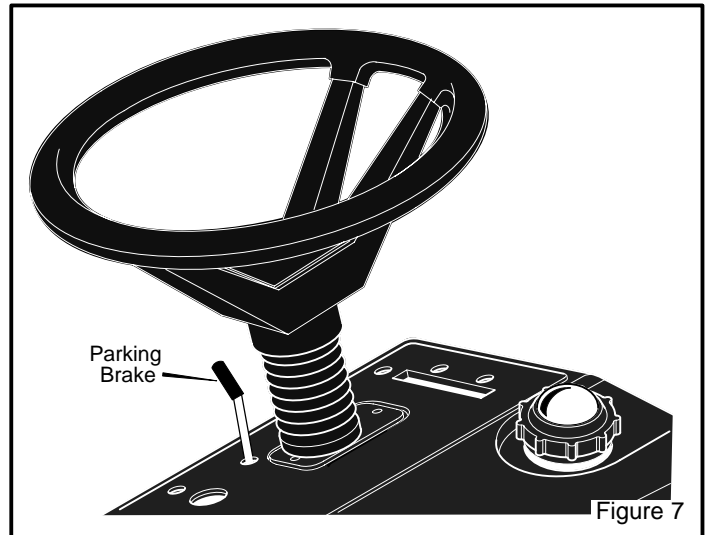

Figure 7
2. Lift the **parking brake lever** (Figure 7).